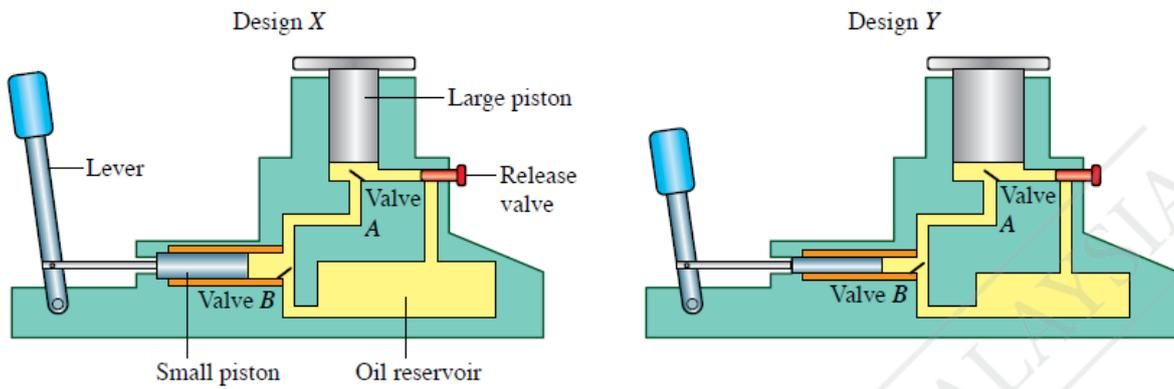

Figure 3
8. Figure 3 shows two designs of a hydraulic jack, X and Y which were suggested by a technician.